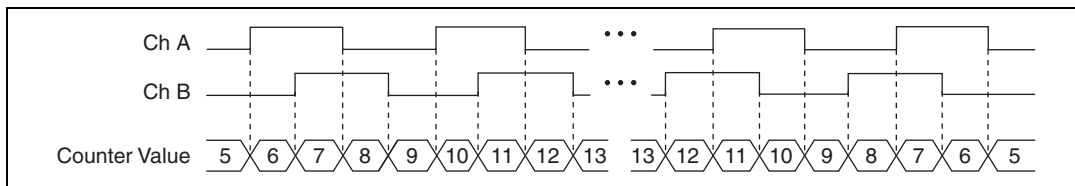

Figure 38. X4 Encoding
- **X4 Encoding**—Similarly, the counter increments or decrements on each edge of channels A and B for X4 encoding. Whether the counter increments or decrements depends on which channel leads the other. Each cycle results in four increments or decrements, as shown in Figure 38.